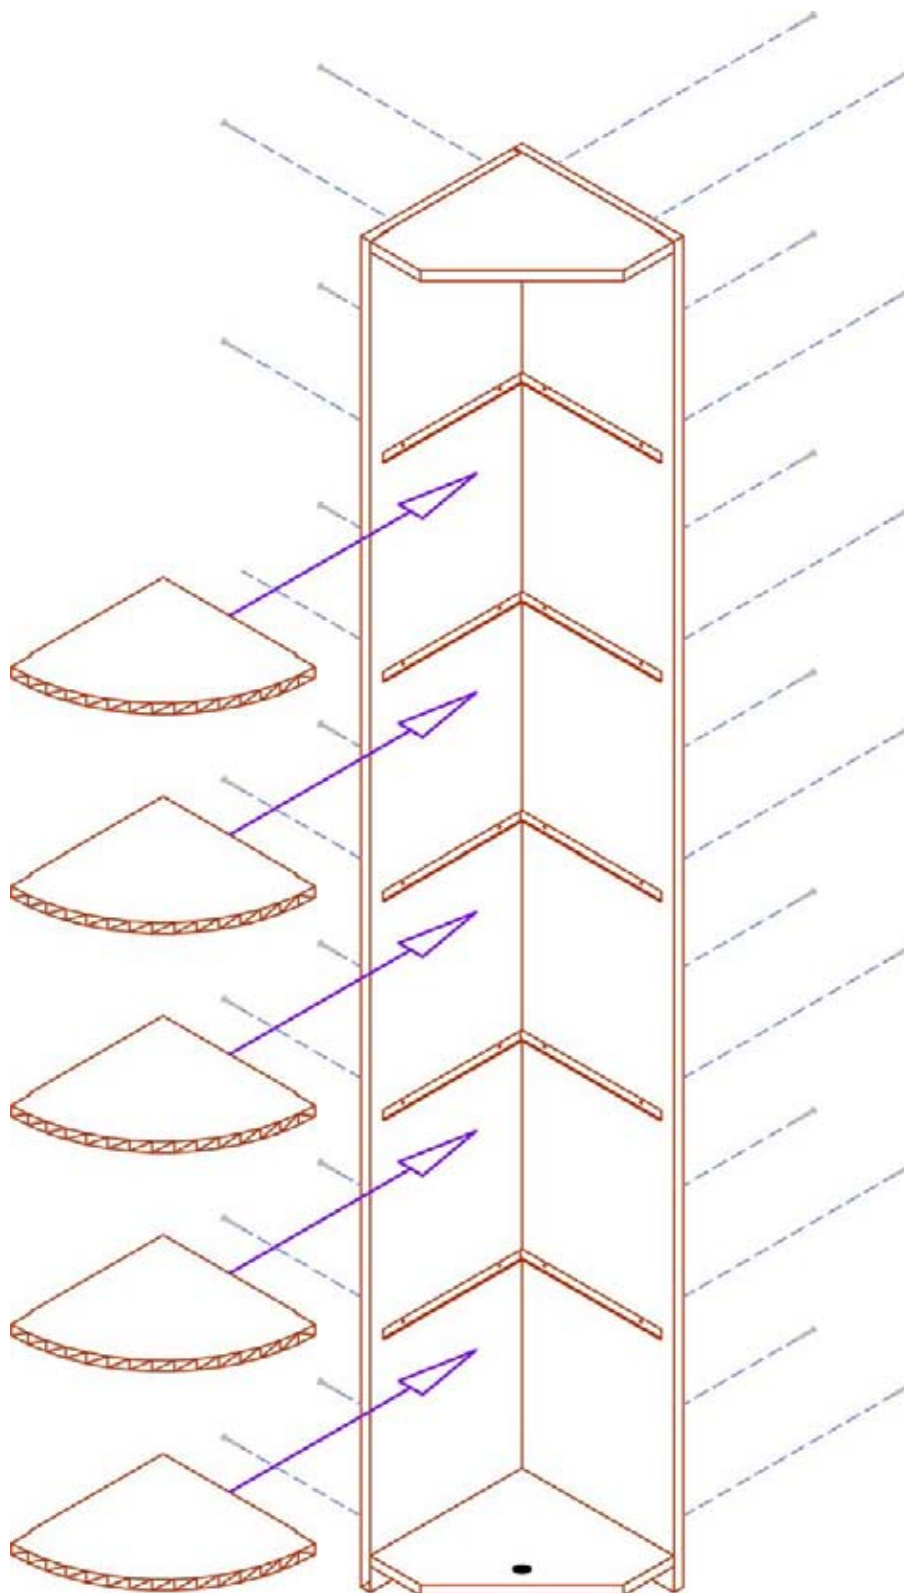

Figure 5
7. Repeat step 6 for the remaining shelves once the top and bottom panels have been attached (**Figure 5**).